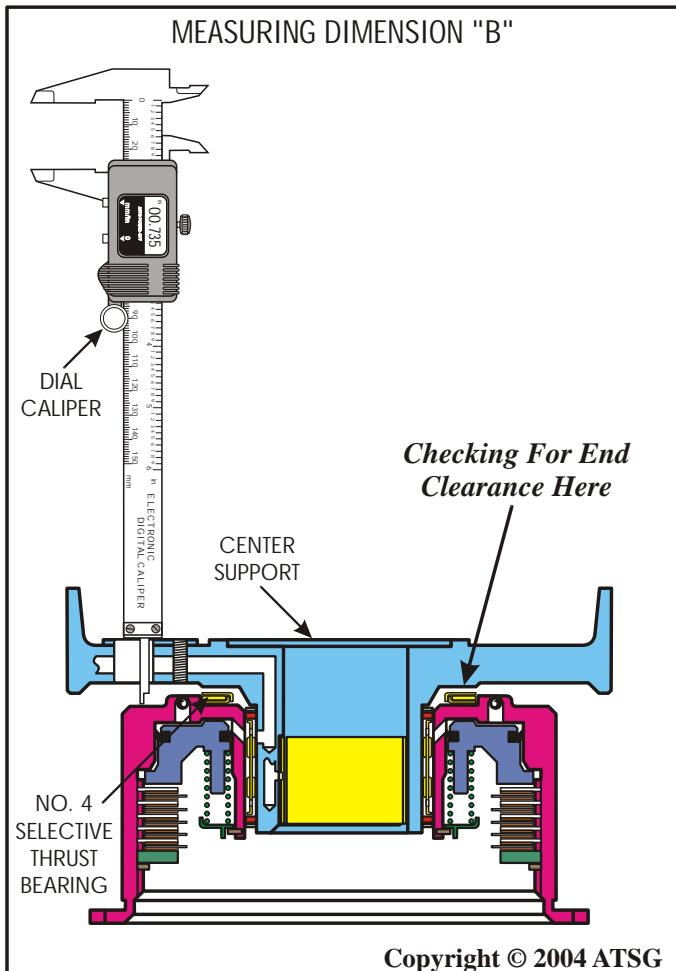

Figure 155
39. Now we must once again measure with the dial caliper through the speed sensor hole down to the surface of the direct clutch housing with all of the parts installed in the case, as shown in Figure 155, *and record this as dimension "B"*.